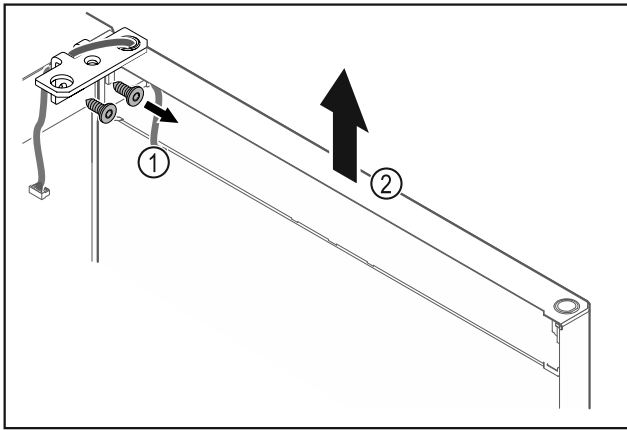

Fig. 23
- Unscrew the hinge Fig. 23 (1).
- Lift the door with the hinge straight up by Fig. 23 (2) roughly 200 mm and take it off.